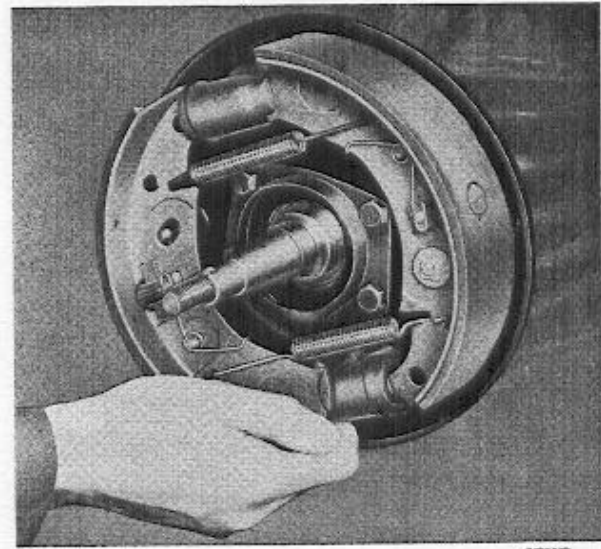

Fig. 20. Removing the brake shoe.
3. Remove the locking washer and other washers from the stud for the adjusting cam on the front brake shoe. Remove the shoe and springs as shown in Fig. 20. Remove the rear shoe in the same way.
3. Hook on the return springs to both shoes and fit the front shoe, see Fig. 20. Fit the locking arrangement as described above.